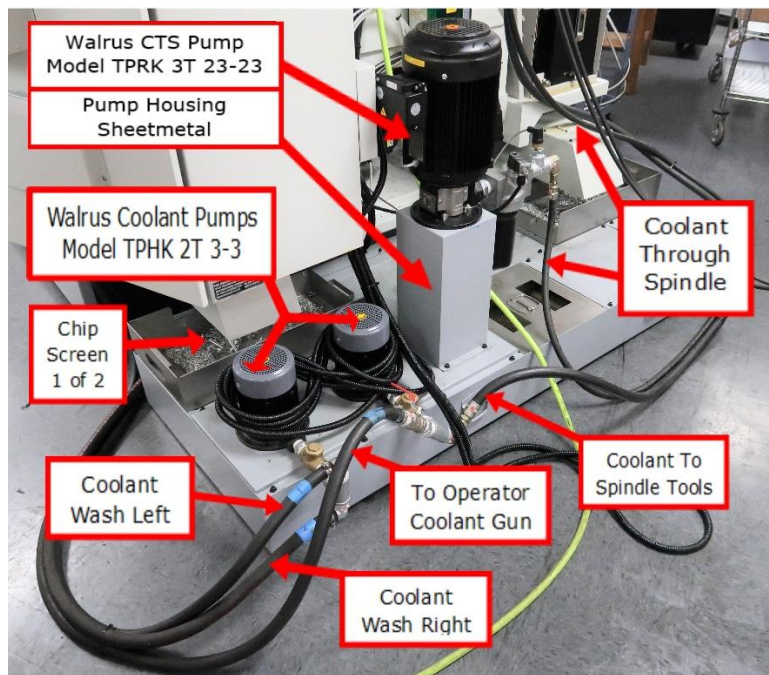

Figure 2.10
3. Attach and secure these hoses with hose clamps per the figure 2.10 below: